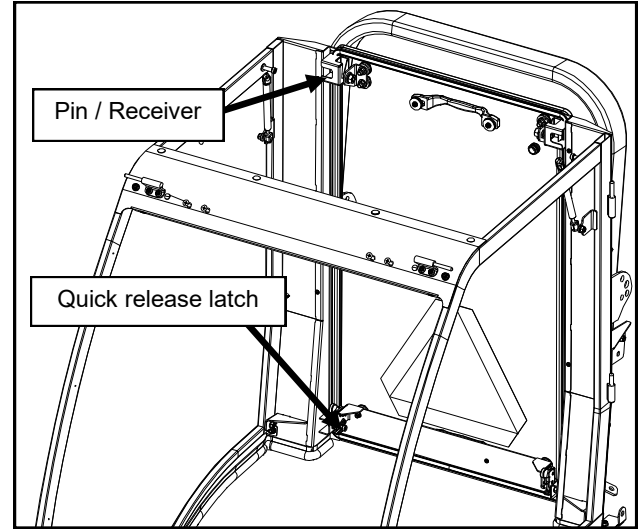

Fig. 14.2 (rear panel installation)
14.2 Lift rear panel and insert the upper pins into the receivers on the rear legs. Engage the lower quick release latches at this time. See Fig. 14.2.